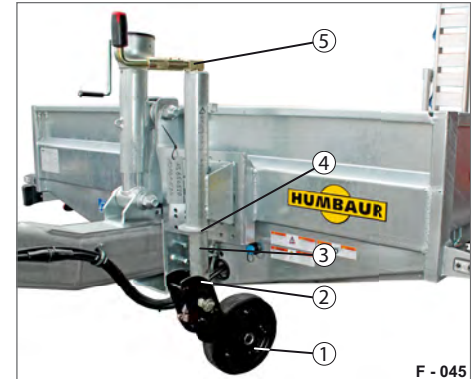

Fig. 26 Support wheel, automatic
- ▶ Swing the crank (Fig. 26/5) out of the holder.